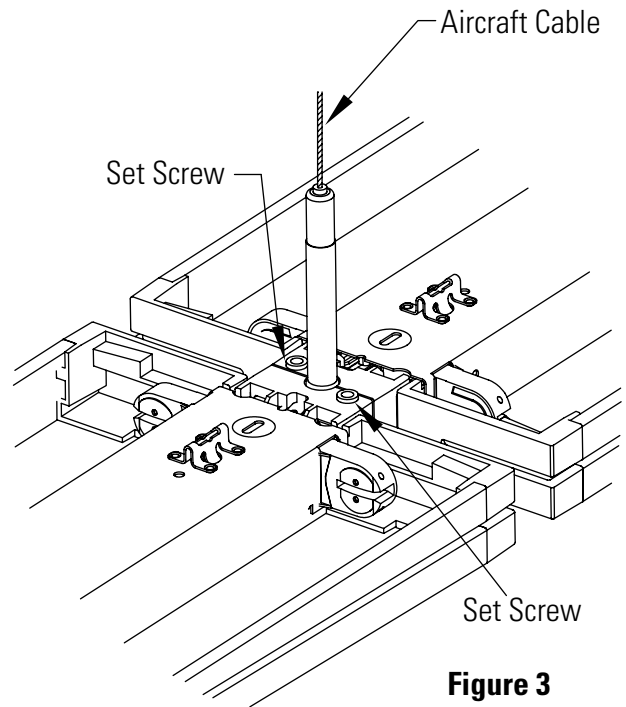

Figure 3
- E. Tighten the set screws as joint. (Fig. 3) Be sure not to over-tighten.
- C. Push fixtures together. (Fig. 3)
- D. Tighten down each of the set screws in both fixtures. (Fig. 3) Be sure not to over-tighten.
- B. Tighten the set screws on top. (Fig. 3) Be sure not to over-tighten.